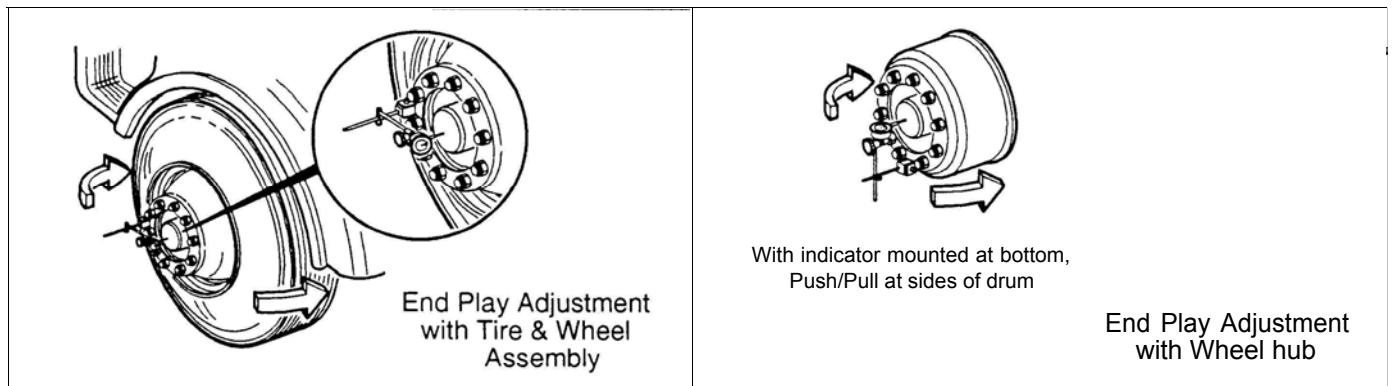

Fig. 4 End Play Measurement
*After verifying end play, secure wheel nuts by bending one of the locking washer tangs over the outer wheel nut and another tang over the inner wheel nut as shown in Figure 4. (below)